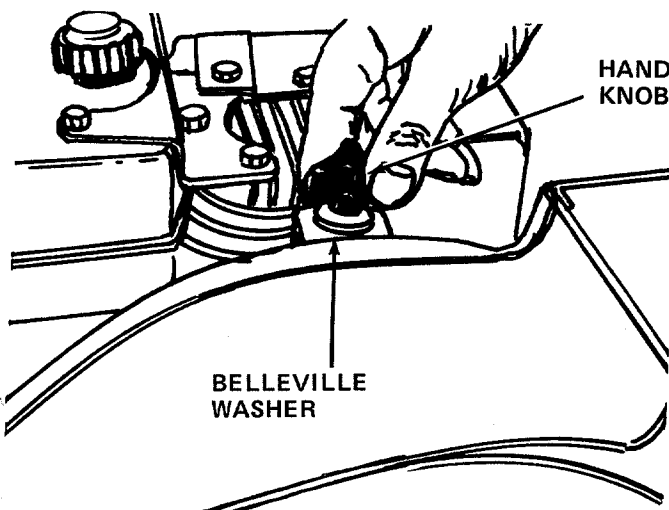

FIGURE 12
- Remove the hand knob and belleville washer holding the housing to engine brace. See figure 12.